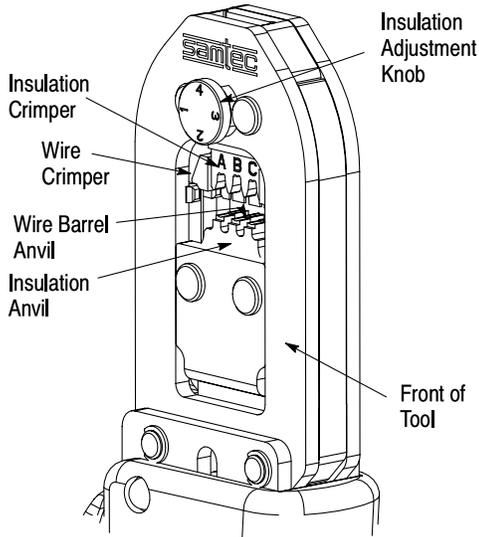

Figure 1
CAT-HT-179-2630-11 (Figure 1.) was designed to crimp CC79L (IPD1-Series) contacts.
insulation barrel during the crimping operation. The locator/insulation stop positions the contact, and limits the insertion distance of the stripped wire into the contact. In use, the locator/insulation stop rests in the locator slot of the contact (See Figures 1 and 2). The ratchet assures full crimping of the contact. Once engaged, the ratchet will not release until the dies have been fully closed.
4. Position the contact between the crimpers so that the locator/insulation stop enters the slot in the contact. The wire barrel should butt against the locator/insulation stop. Refer to Figure 1.
5. Check the clearance between the bottoming surfaces of the wire crimper and the wire anvil. See Figure 1. If the clearance is 0.025 mm [.001 in.] or less (on at least two of the bottoming surfaces), the ratchet is satisfactory. If clearance exceeds 0.025 mm [.001 in.], the ratchet is out of adjustment and must be repaired.